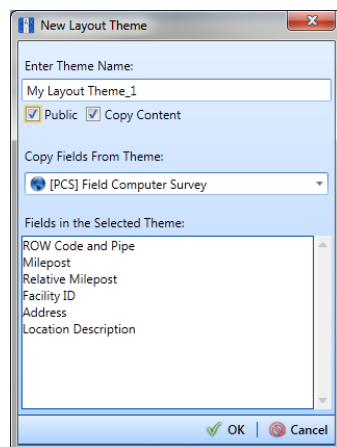

Figure 13-29. New Layout Theme
- 7 Click the **Customize** tab  then the  **Add** button to open the *New Layout Theme* dialog box (Figure 13-29).